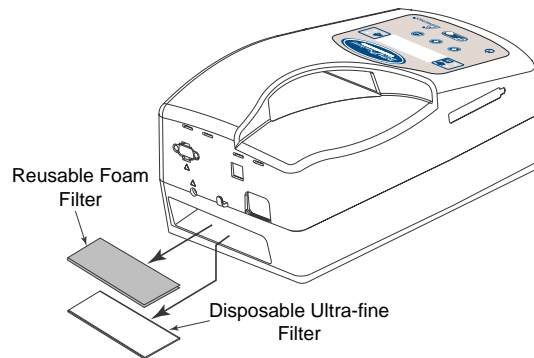

Figure 7-2 Removing the Air Filters
- Step 3** Remove the filters from the enclosure as shown in Figure 7-2. The top filter is the reusable gray foam filter. The bottom filter is the optional disposable white ultra-fine filter.